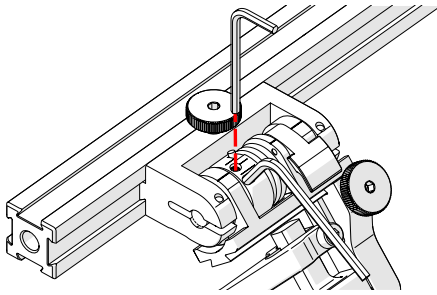

Fig. 143 - Insert hex tools
4. Place the 2 mm hex wrench into the force adjustment screw (*Fig. 143*).